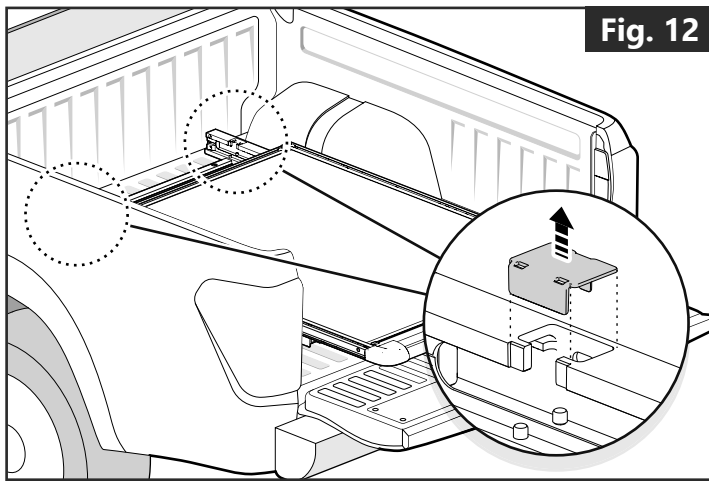

Fig. 12
- Extend the deck and remove the plastic inserts at the back of the base frame. **(Fig. 12)**